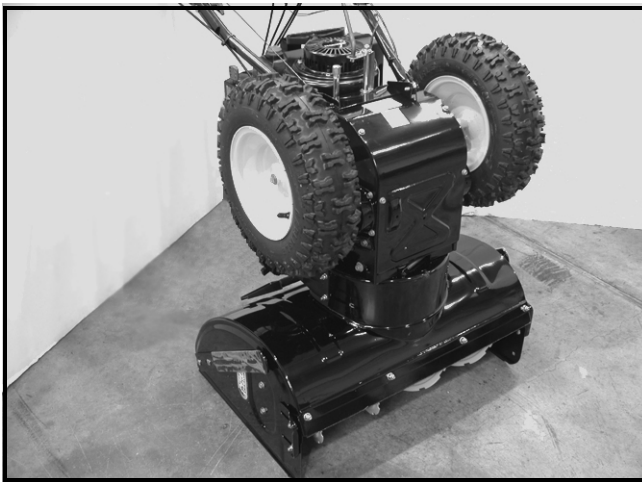

FIGURE 2
7. Using the handles, tip the snow thrower forward so that the unit is resting on the front of the auger housing. See Figure 2. Check for oil or fuel leaks, correct as necessary.